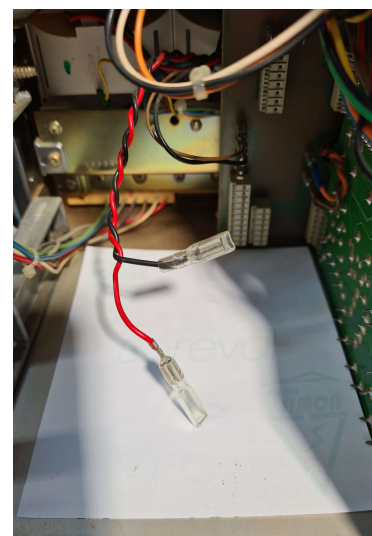

Figure 7
- Disconnect the red and black cable from the terminal P12 & P13 (Figure 6-7) and put them in the insulating sleeves. (Figure 7)